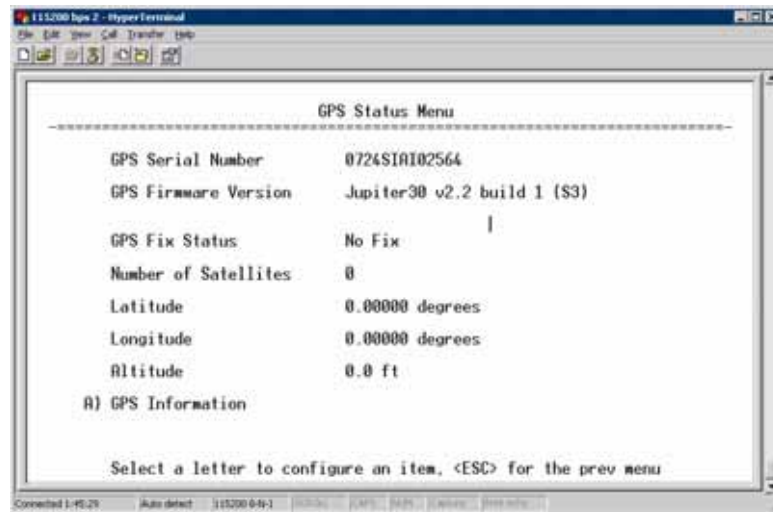

Figure 3-87. GPS Status Menu
- **GPS Status**—Shows satellite fix status, number of satellites being received, and unit location data. (See Figure 3-87 on Page 115 for details.)